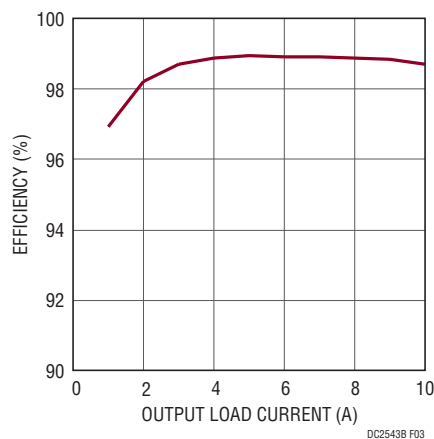
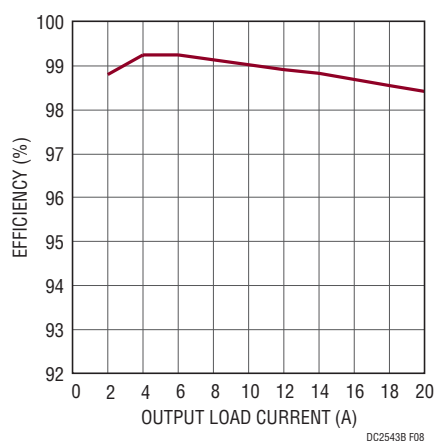
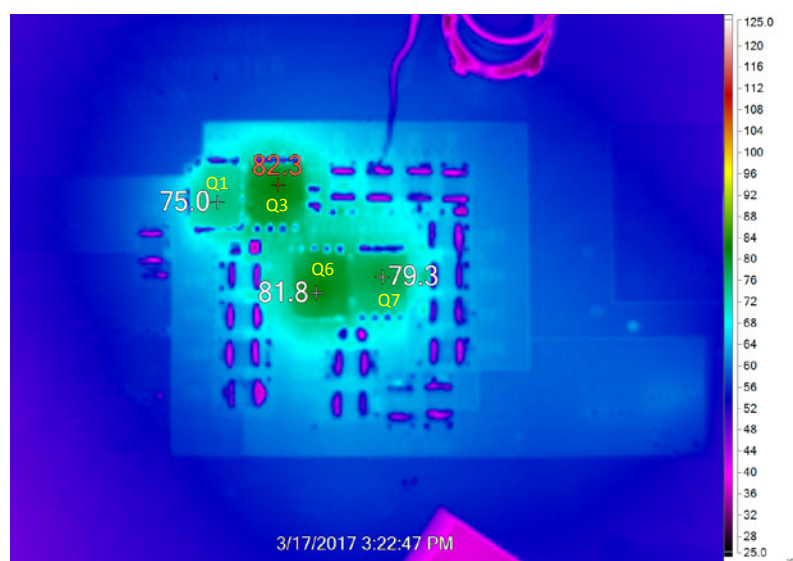

Figure 3. Efficiency vs Load Current at $V_{IN} = 48V$, $V_{OUT} = 24V$, $f_{SW} = 200kHz$
Figure 8. Efficiency vs Load Current at $V_{IN} = 48V$, $V_{OUT} = 24V$, $f_{SW} = 200kHz$ *
Figure 10. Thermal performance at $V_{IN} = 48V$, $V_{OUT} = 24V$, $I_{OUT} = 20A$, $T_A = 23^\circ C$, No Airflow *
Demonstration circuit 2543B is a high efficiency, high density, open loop charge pump (inductorless) DC/DC converter. This demo board is a voltage divider which achieves a 2:1 step-down ratio from an input voltage from 36V to 60V. The output voltage is a fixed ratio of half of the input voltage ($V_{IN}/2$) and can supply a 10A load current. This demo board has the option to deliver a 20A maximum load with the addition of 15 chip capacitors. See Figure 8 and Figure 10 for the details.
The DC2543B provides a very high efficiency solution of 98.7% when converting 48V_{IN} to 24V_{OUT} at 10A as shown in Figure 3. When configured for a 20A output, an efficiency of up to 98.4% is achievable for a 48V_{IN} to 24V_{OUT} at 20A as shown in Figure 8.
1. When measuring the output or input voltage ripple, do not use the long ground lead on the oscilloscope probe. See Figure 3 for the proper scope probe technique. Short, stiff leads need to be soldered to the (+) and (–) terminals of an output capacitor. The probe's ground ring needs to touch the (–) lead and the probe tip needs to touch the (+) lead.